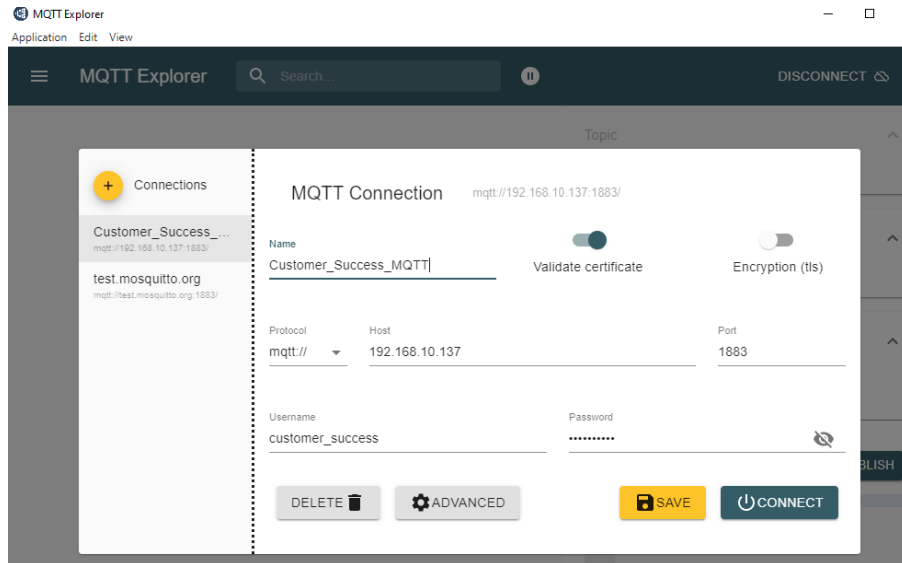

Figure 82: MQTT Explorer – Connection Settings
1. In MQTT Explorer, set the **MQTT Connection** fields as shown in Figure 82.